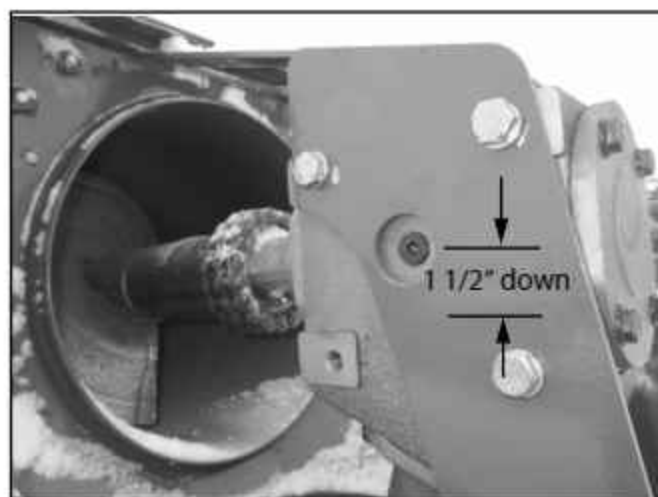

FIG. 5-1. Upper Gearbox Oil Level
1. Inspect the oil level in both upper and lower swing tube gearboxes. See section 5.1 for oil type. See Fig. 5-1 and 5-2.